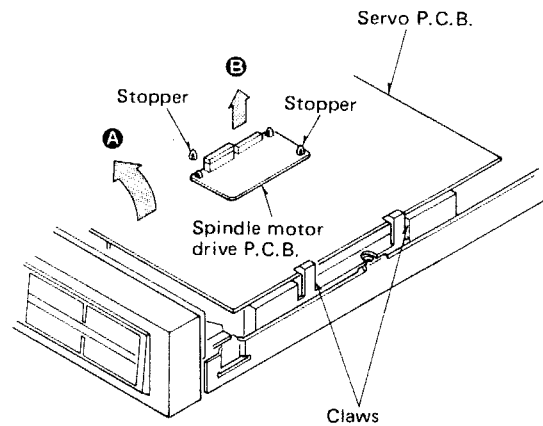

Fig. 2
2. Release the 2 claws of the holder. [Fig. 2]
3. Hold the stopper with pincers or the like and raise the P.C.B. in the direction of arrow A. [Fig. 2]
2. Hold the stoppers of P.C.B. with pincers or the like, then remove the P.C.B. in the direction of arrow B. [Fig. 2]